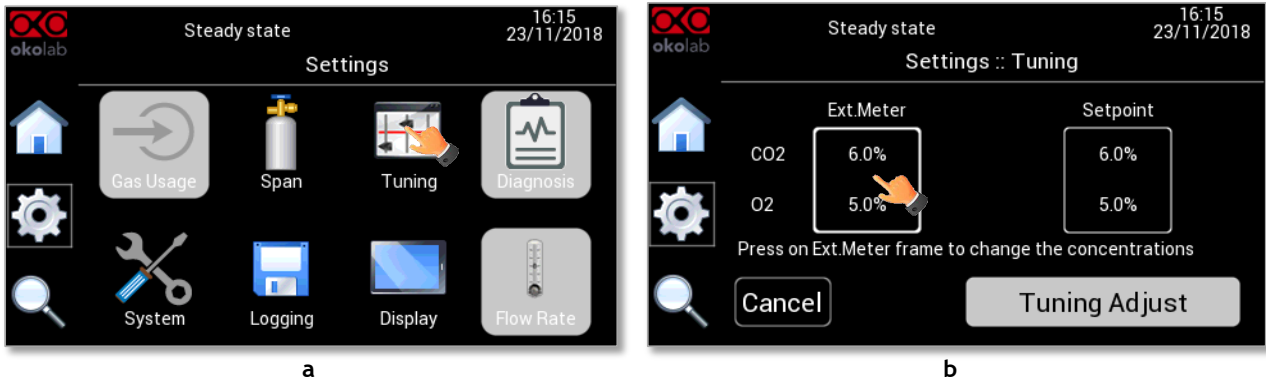

Figure 123. How to insert a Tuning adjustment (a – b).
3. Press on *Tuning* icon  on the Tri-Gas-Mixer touch screen (see Figure 123 a) to enter the *Tuning* page.
4. The page shown in Figure 123 b appears. Press on *Ext Meter* button as shown in Figure 123 b.